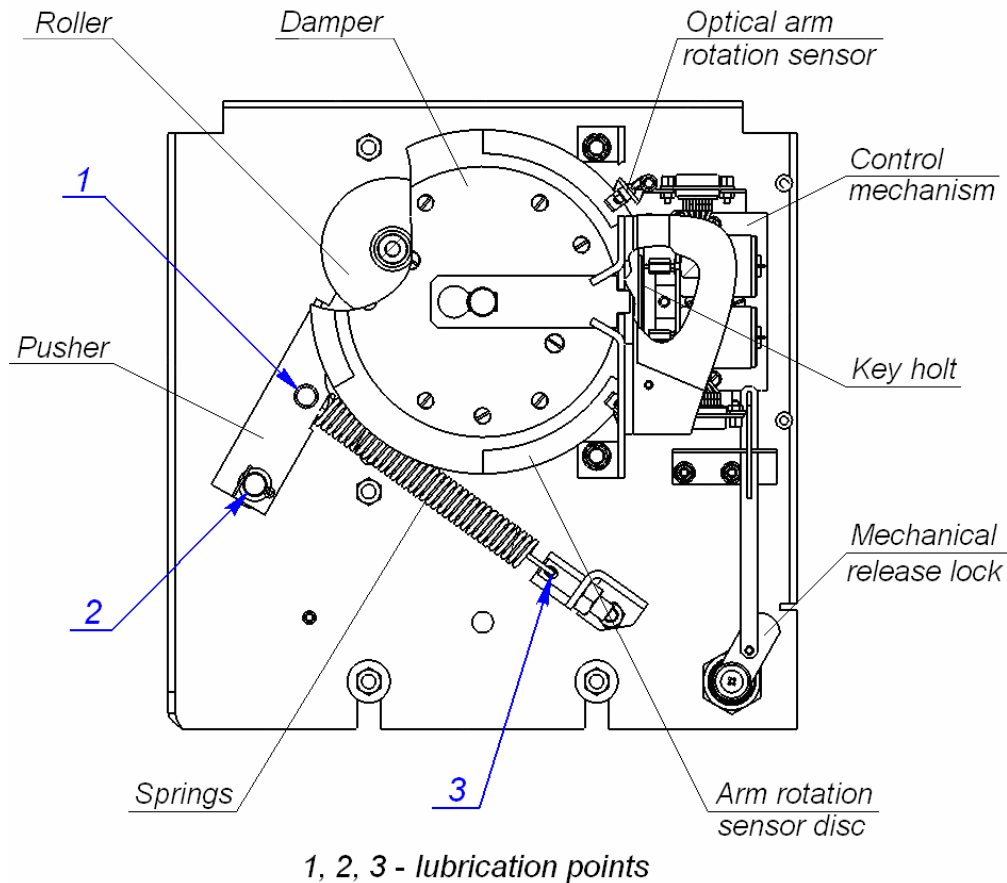

Figure 14. Location of the interior components of the turnstile housing (CLB is not shown)
Check visually the resetting device (pusher, springs and roller), the arm rotation sensors and the damper (Fig. 14).
- four bushes of the resetting device (two – on the rotation axis of the pusher, two – on the fastening axis of the springs) (see Fig. 14);
- lock cylinder of the mechanical lock (15) through the keyhole.